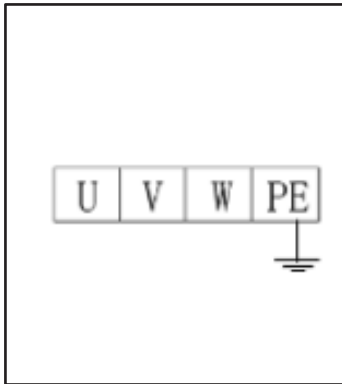

Fig. 10
- Power line connection: Connect the 380V three-phase four-wire power cable (3 x 2.5MM² + 1 x 1.5MM² cable) to L1, L2, L3, and incoming cable terminals of the console, and connect the PE ground cable to the ground labeling bolt, and then connect it to the ground labeling bolt at the bottom of the two platforms (Figure 10)